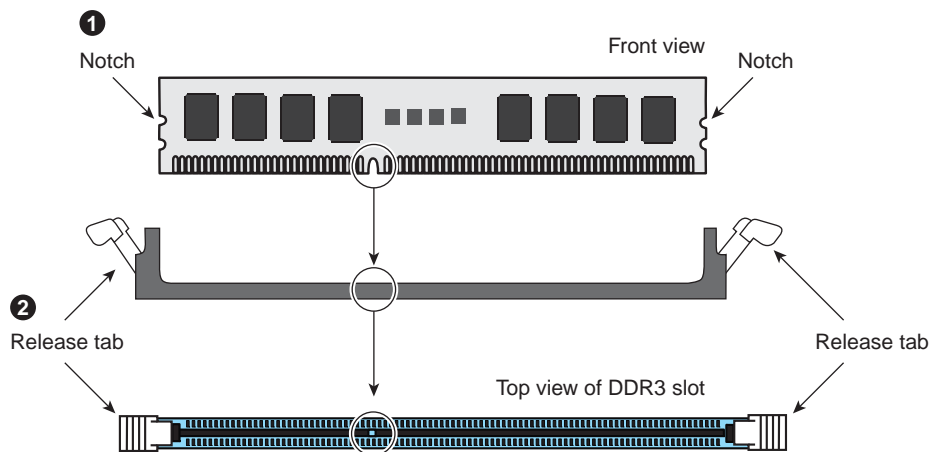

Figure 5-4 DIMM Installation Example
1. Insert the DIMM module vertically and press down into its slot until it snaps into place. Pay attention to the alignment notch at the bottom of the module to avoid installing incorrectly (see Figure 5-4 on page 34). Insert the desired number of DIMMs into the memory slots, beginning with DIMM #1A and DIMM #2A, then DIMM #3A and DIMM #4A.
To remove a DIMM module, use your thumbs to gently push the release tabs near both ends of the module (see Figure 5-4). This should release it from the slot.